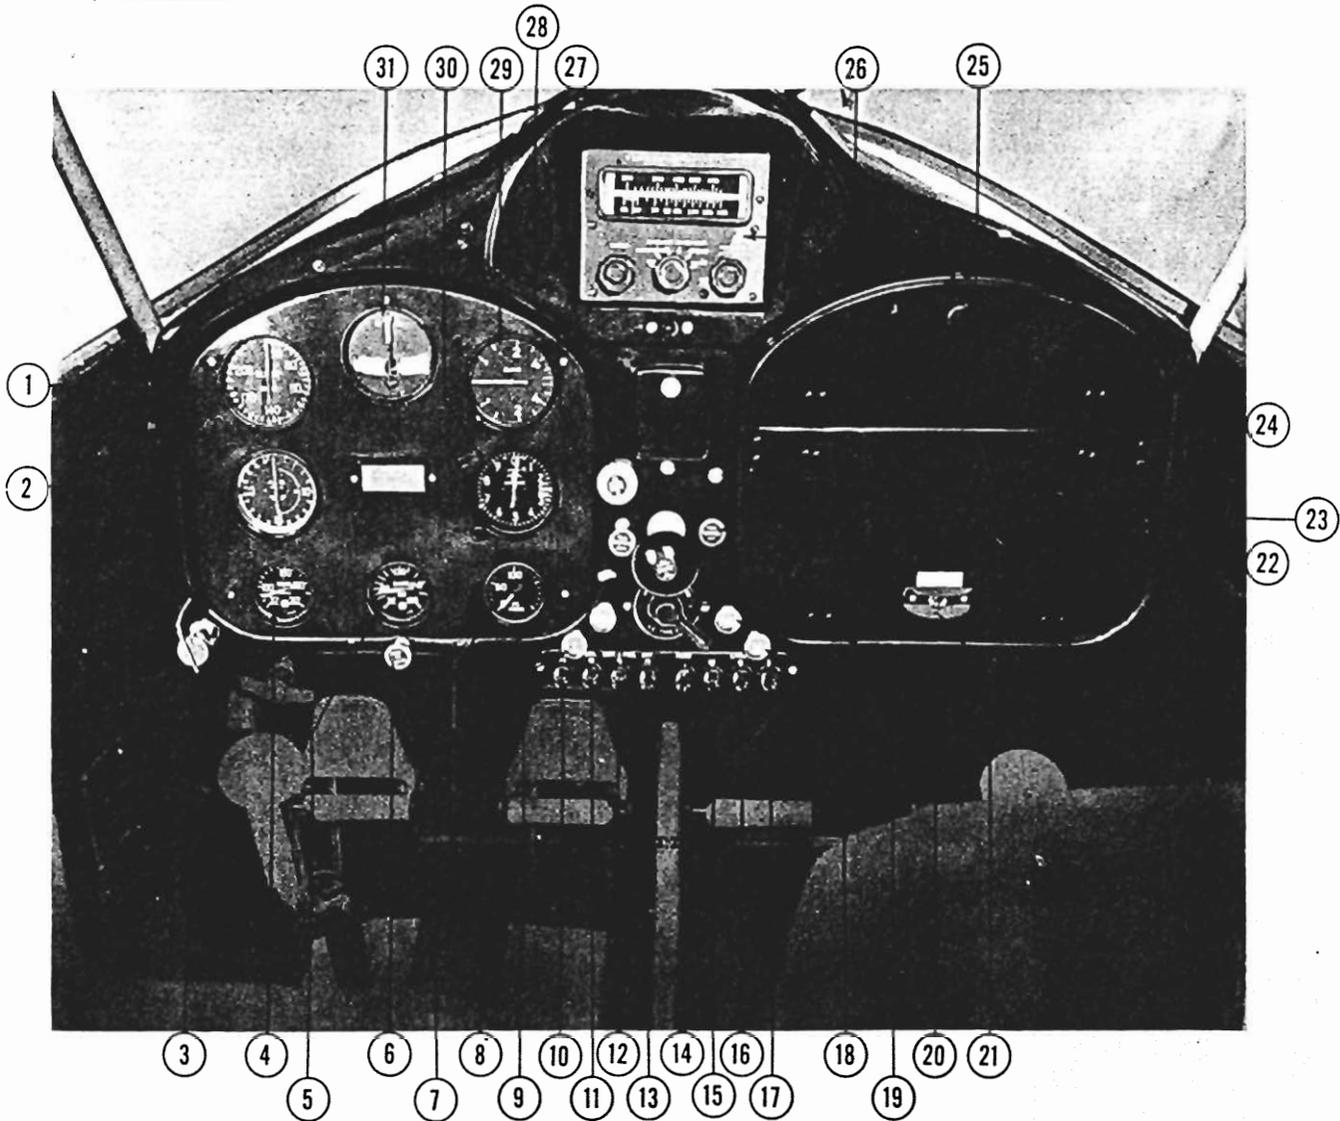

Figure 2-1—Instrument Panel
**5. POWER PLANT CONTROLS.** Power plant controls are flexible type operating in a casing with friction regulators to hold them in a set position. They are located on the center of the instrument panel for easy access to both pilot and copilot. (See figure 2-1.) These controls consist of a throttle, mixture, carburetor air temperature and, on the Warner powered airplane, a spark control. The Ranger powered airplane does not require a spark control since one magneto is equipped with an impulse coupling for starting. A primer pump for injecting fuel directly into the engine is installed and operated by a handle on the lower left side of the instrument panel.
**11. INSTRUMENT PANEL.** (See figure 2-1) The instrument panel extends the width of the cabin forward of the pilot and copilot. The instrument panel contains, immediately in front of the pilot on the left side, a shock mounted panel which carries the flight and engine instruments necessary for the easy and safe operation of the aircraft. The central portion of the panel mounts engine controls and electrical switches. Radio is installed at the top center of the panel when specified. An ash tray is provided on the instrument panel.